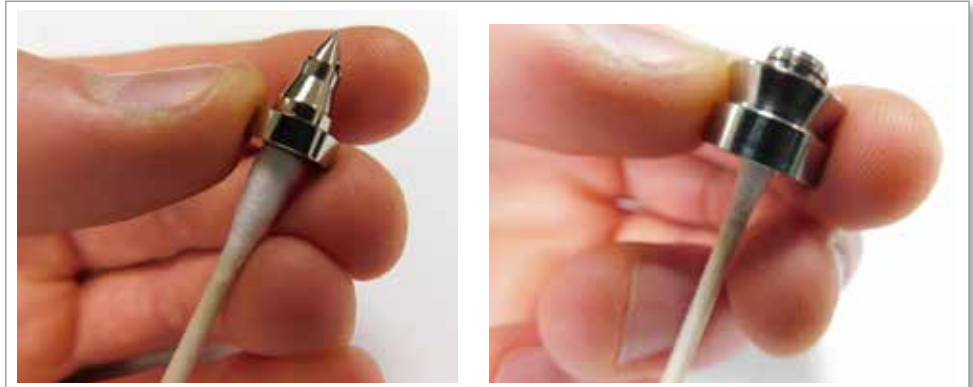

Figure 19-11 Clean torpedo and transfer seal
4. If necessary, clean the interior surfaces and screw threads with a cotton swab. See Figure 19-11.